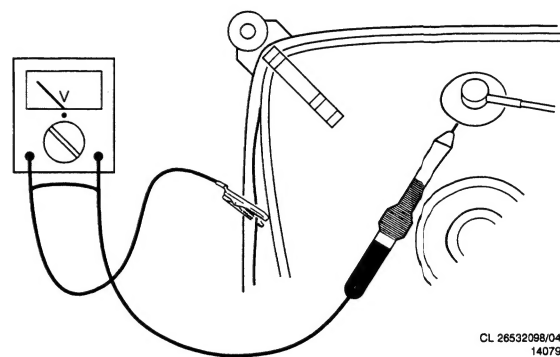

Fig. 3.1
1. In order to prevent damage to IC's and transistors any flash-over of the EHT should be avoided. To prevent damage to the picture tube the method, indicated in Fig. 3.1, has to be applied to discharge the picture tube. Make use of an EHT probe and a universal meter (position DC-V). Discharge until the reading of the meter is 0V (after approx. 30s).